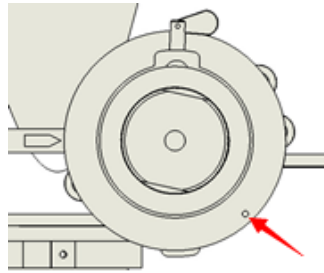

Figure 20
Step 3. Loosen the dial screw and pull out the $\phi 3$ pin under the dial, so that the dial can be freely rotated around the axis (Figure 20).